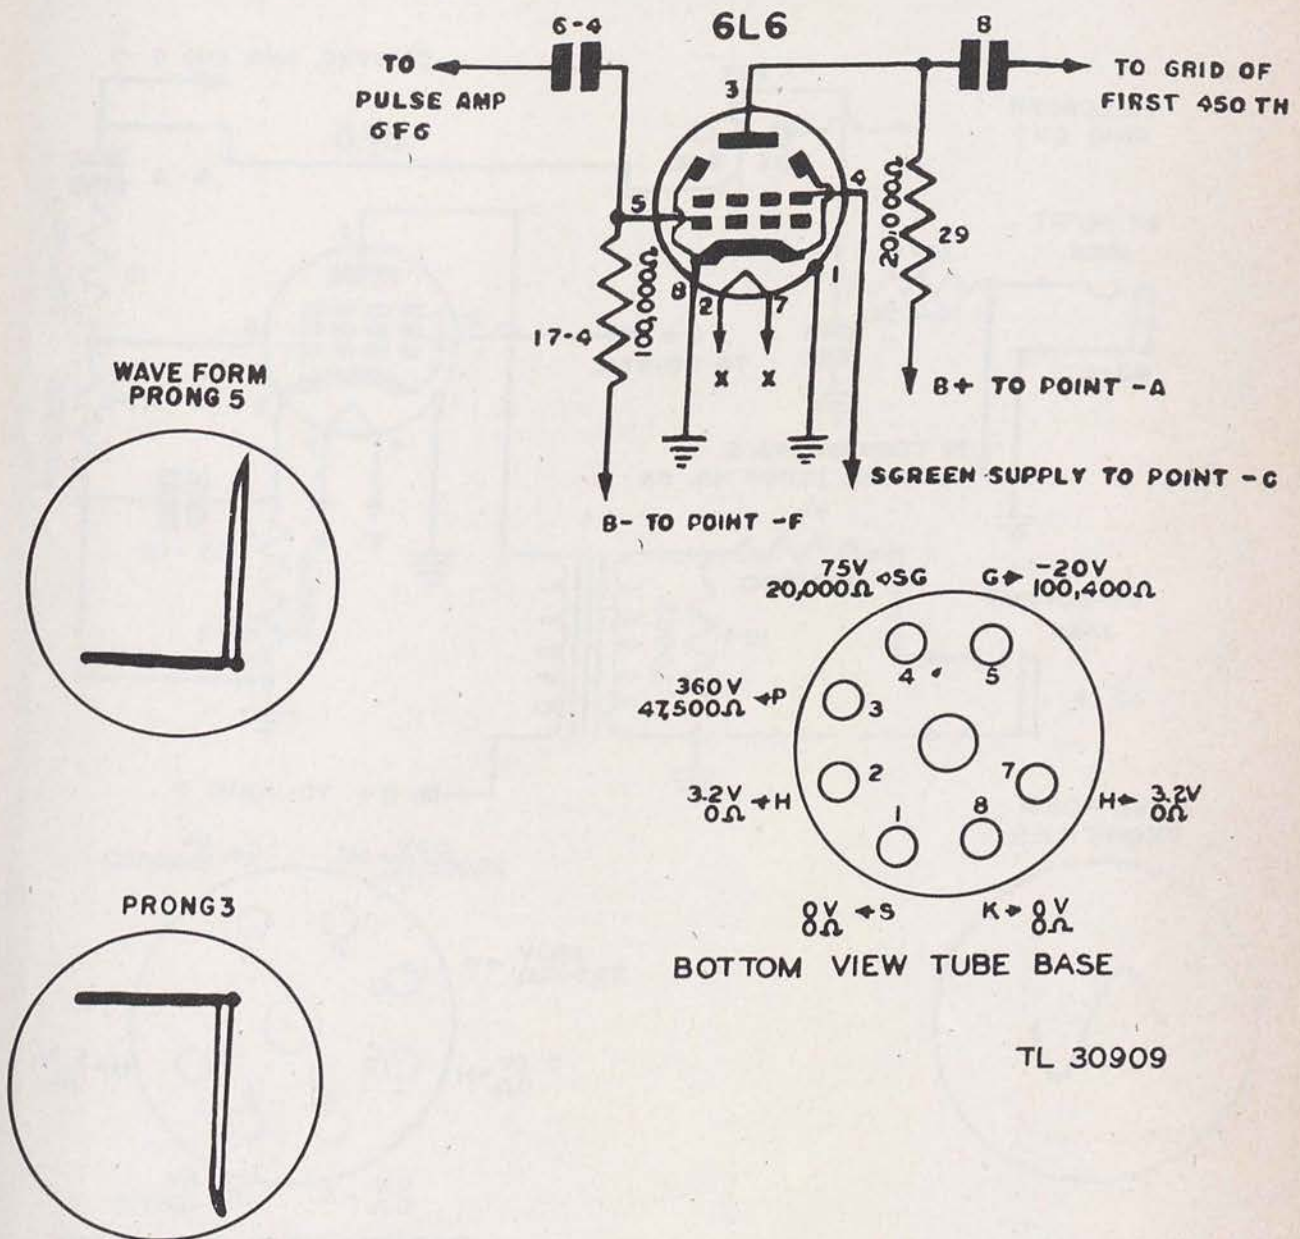

Figure 53. Keyer BC-758-A, pulse amplifier output stage.
b. TESTING 6L6 PULSE AMPLIFIER OUTPUT STAGE (fig. 53). (1) Check for normal waveform indication between the control grid (tube prong 5) and ground. If no waveform indication is obtained, check coupling capacitor 6-4 and stage.
(2) Check for normal waveform indication between the plate (tube prong 3) and ground. If no waveform indication is obtained, test the tube and stage.